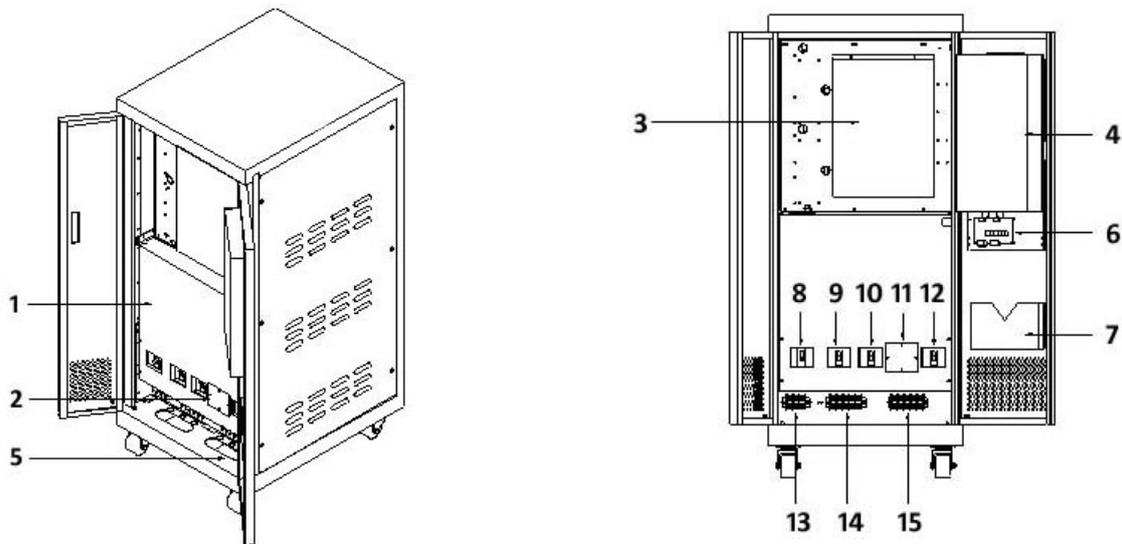

Figure 4 : Front Door Opened
1. Open front door and check five N.F.B.s (see Figure 4) are at 「OFF」 position.
2. Switch on 「8. Battery Input N.F.B.」 (see Figure 4).
6. Switch off 「8. Battery Input N.F.B.」 and check again five N.F.B.s (see Figure 4) are at 「OFF」 position then start to install the UPS.
Please make sure the five N.F.B.s (see Figure 4) are at 「 OFF 」 position.
Please make sure the power that will be supplied to the external battery terminal block and input terminal block (see Figure 4) of the UPS are completely cut off.